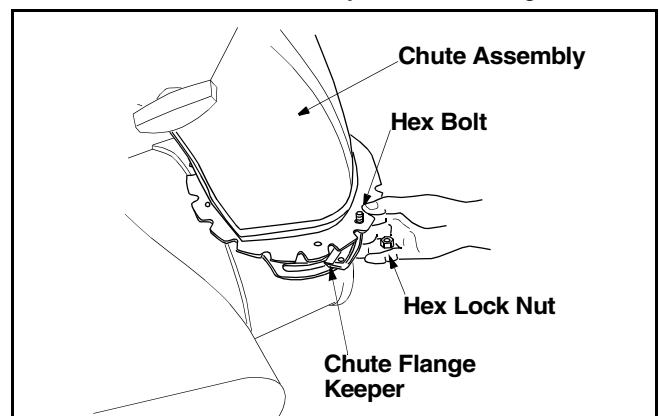

Figure 10
- Place chute flange keepers beneath lip of chute assembly, with the flat side of chute flange keeper facing downward. See Figure 10.